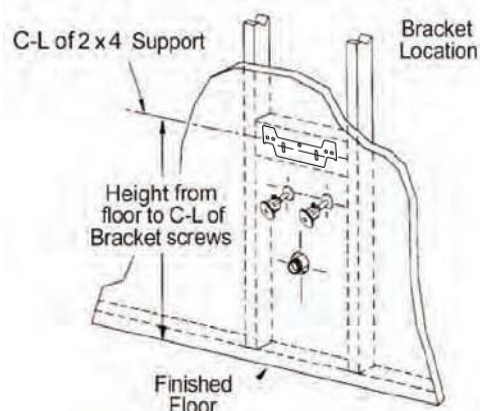

Figure 2
3. **IMPORTANT:** The lavatory is heavy and requires installation of a 2" x 4" board behind the finished wall. Position the board between two studs so that the front surface of the bracket is flush with the front of the studs. The finished wall is then applied over the board. See Figure 2.